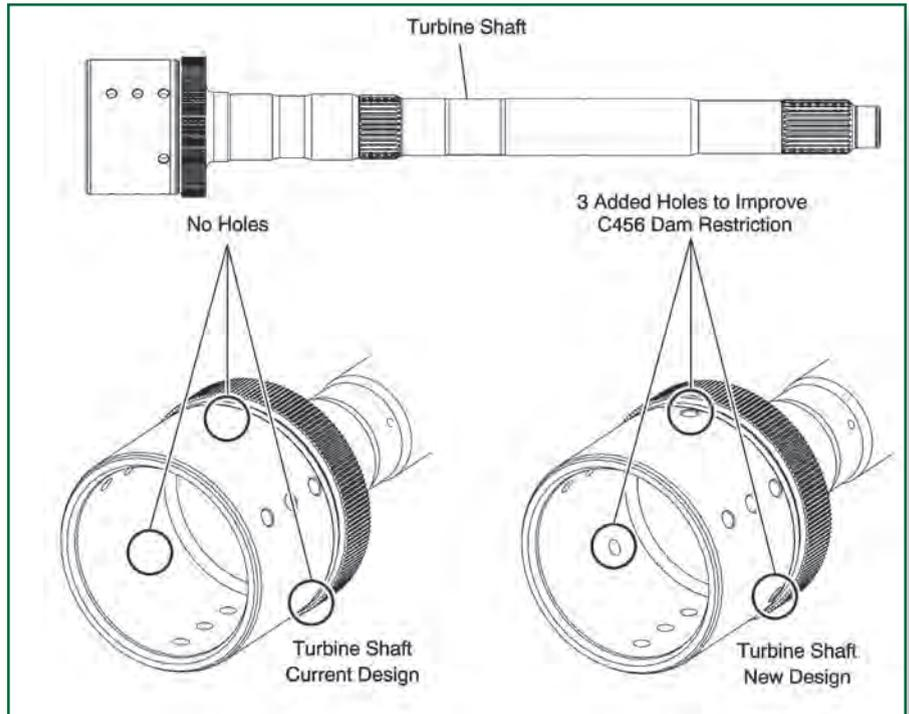

Figure 2
- Compensator holes were added to the turbine shaft (Figure 2).